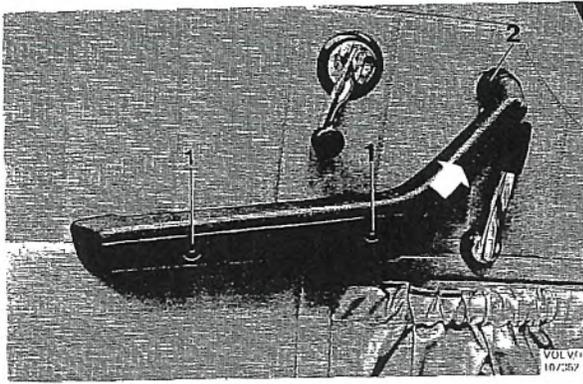

Fig. 8-11. Armrest
3. Carefully take out the plugs in the screw holes of the armrest (1, Fig. 8-11) and then undo the
screws. Thereafter turn the plastic ring (2, Fig. 8-11) several turns to the left and move the armrest forwards/upwards (3, Fig. 8-11). This releases the armrest from its front attachment, so that the armrest can be pulled straight out.